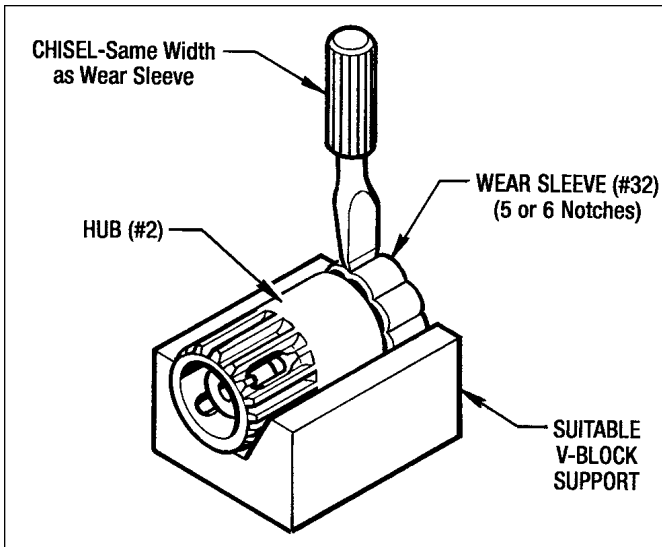

Figure 7.7 - Removing Wear Sleeve (#32)
1. With a chisel the same width as the Wear Sleeve (#32) make about 5 or 6 notches as shown in Figure 7.7. The Wear Sleeve (#32) can now be removed by hand from the Hub (#2).